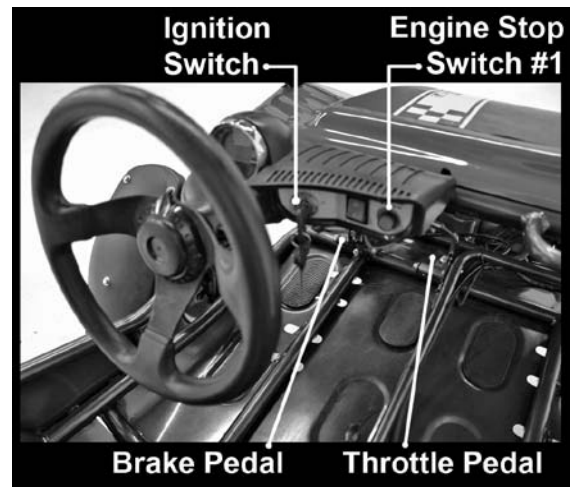

fig. E1
E. Engine Starting (see fig. E1)